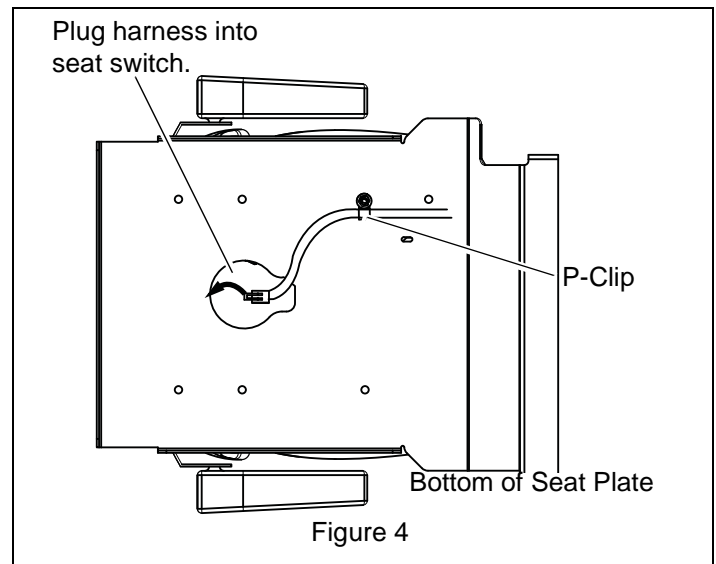

Figure 4
3. Install the seat on the seat plate with the 5/16" flat washers and lock nuts removed in step 1. Secure the p-clip on the wiring harness to the left front seat stud so the harness gets routed as shown in Figure 4.